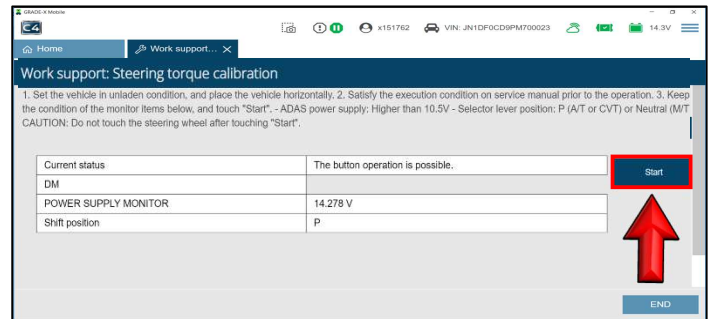

Figure 36
34. Select **Start**. (Figure 36)